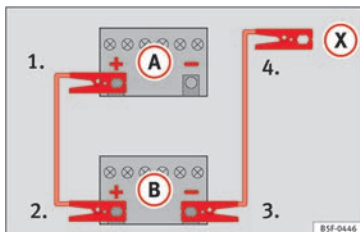

Fig. 87 Diagram of connections for vehicles without Start-Stop system.
2. Connect one end of the **red** jump lead to the positive (+) terminal of the vehicle with the flat battery **(A)** » **Fig. 87**.
4. *For vehicles without Start-Stop system:* connect one end of the **black** jump lead to the negative terminal (-) of the vehicle providing the current **(B)** » **Fig. 87**.